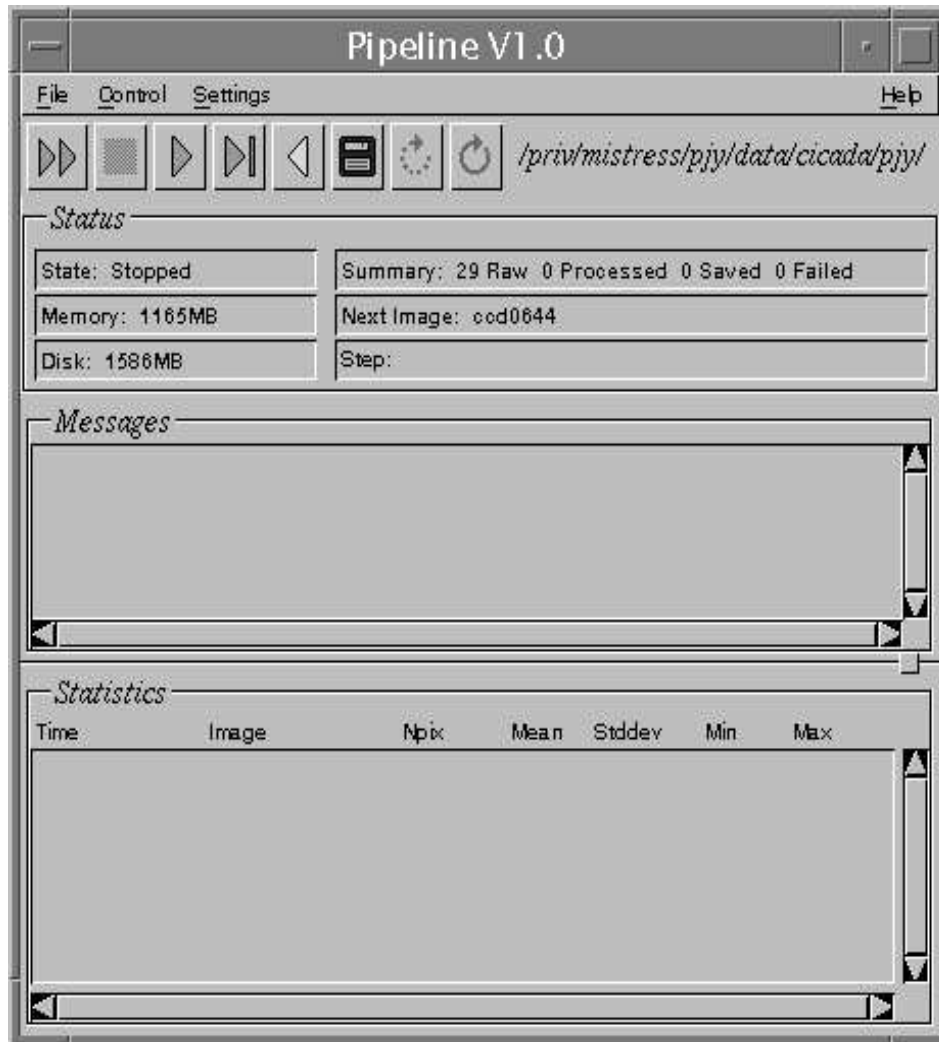

Figure 2: Pipeline GUI Window
1. Start Pipeline by typing `pipeline`. You should see the main GUI window shown in Figure 2